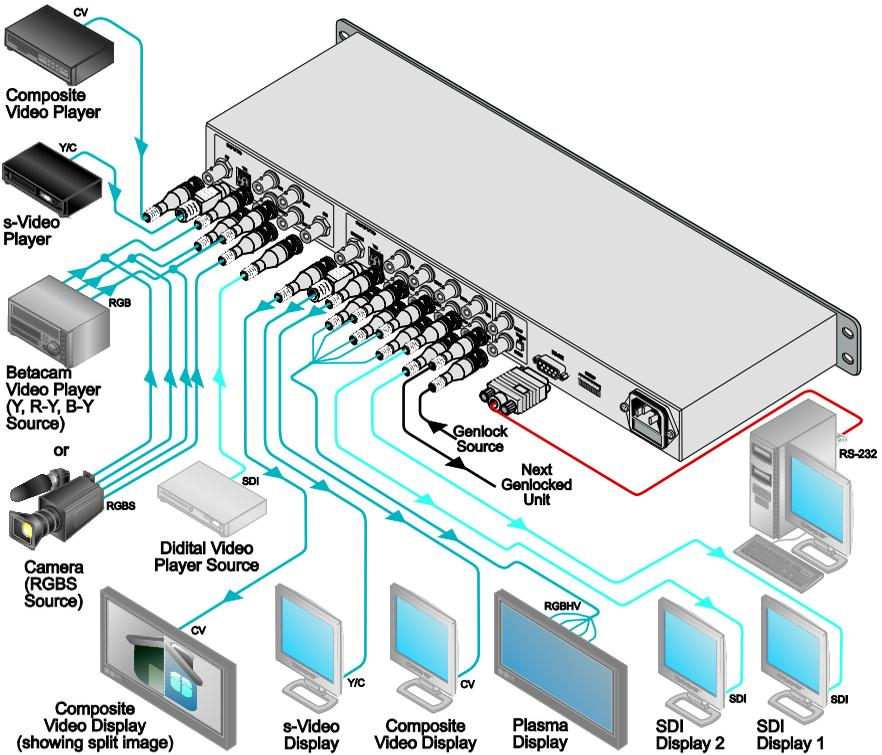

Figure 4: Connecting the SP-11D Digital Video Processor
You can use your **SP-11D** to convert composite video, s-Video, component video (YUV or RGB/S), or SDI signals to composite video, s-Video, component video (YUV, RGsB, RGBS, RGBHV) and¹ SDI. The processing can be evaluated on a “Before/after” split-screen, as the example in Figure 4 illustrates.
8. Connect the power cord⁴ (not illustrated in Figure 4).
The example in Figure 4 illustrates how to connect your SP-11D: